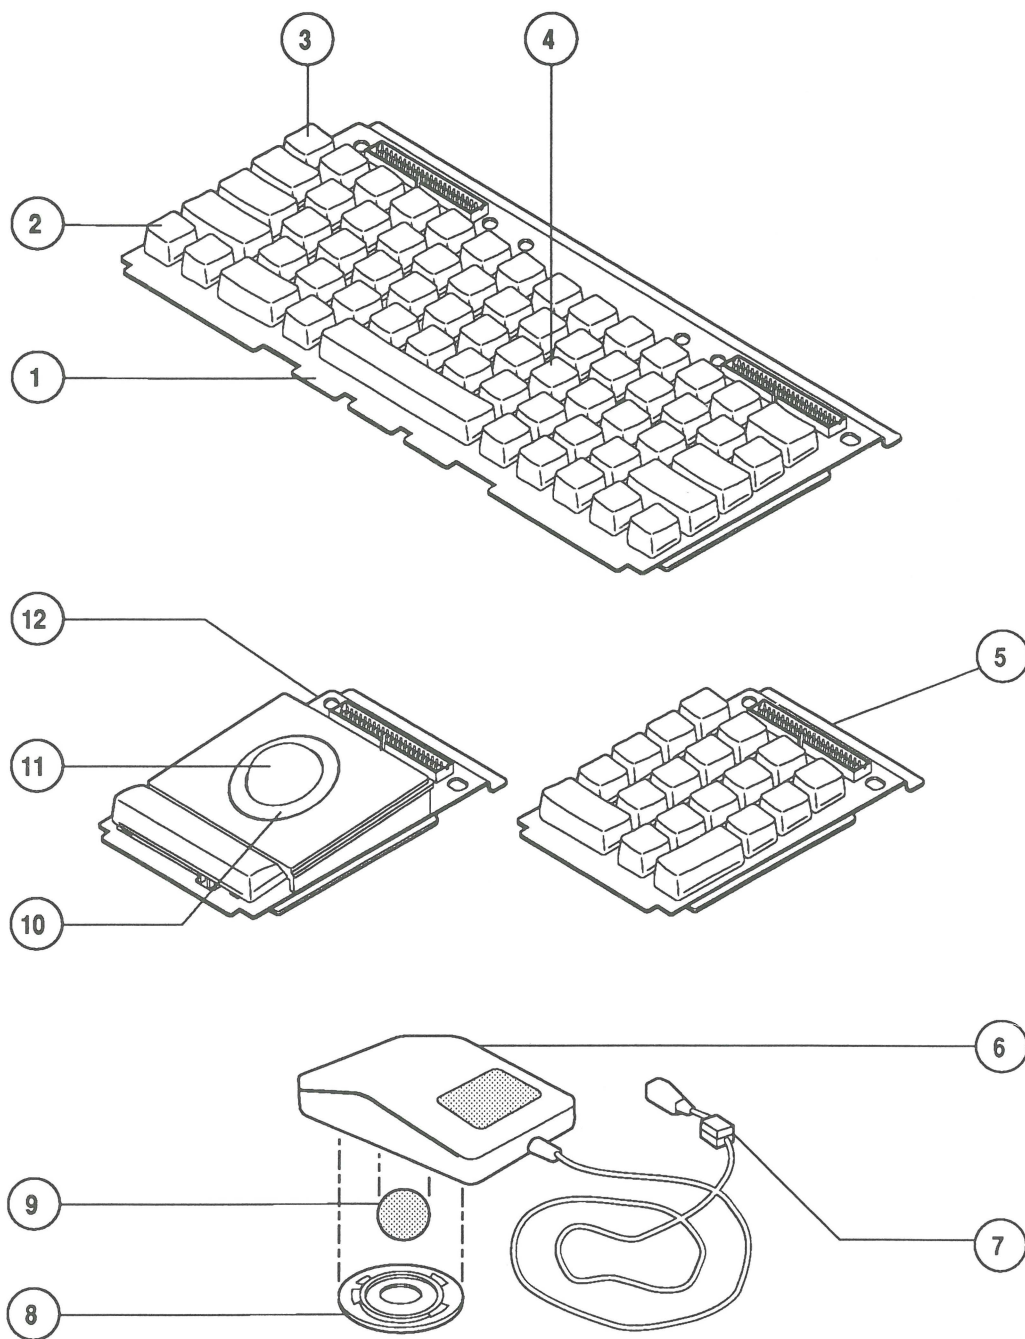

FIGURE 4
- IPL.9 Input Devices (Figure 4)
□ INPUT DEVICES (Figure 4)